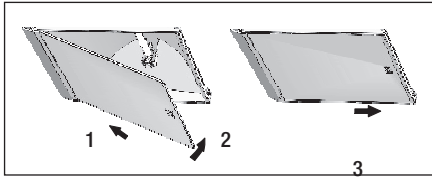

Fig. 20
6. Fit the glass sheets to the heat lamp reflector bodies Fig. 20.